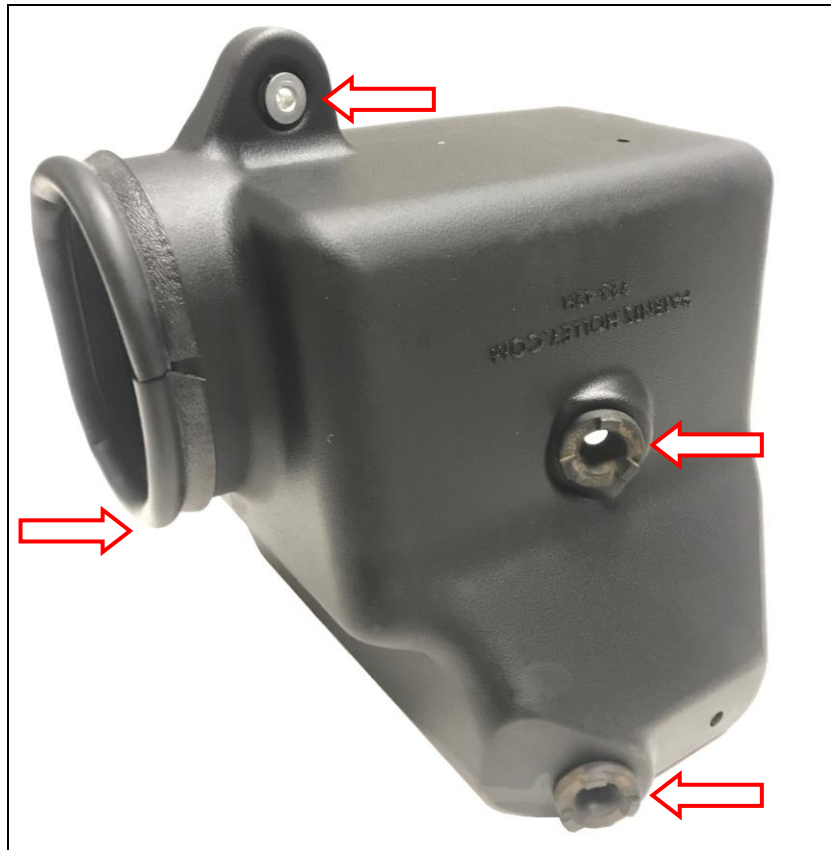

Figure 2
11. Remove the (x2) rubber grommets from the factory housing and replace on the iNTECH housing (**Figure 2**).
12. Remove the metal sleeve and rubber grommet from the lower half of the factory airbox and install in the iNTECH housing (**Figure 2**).